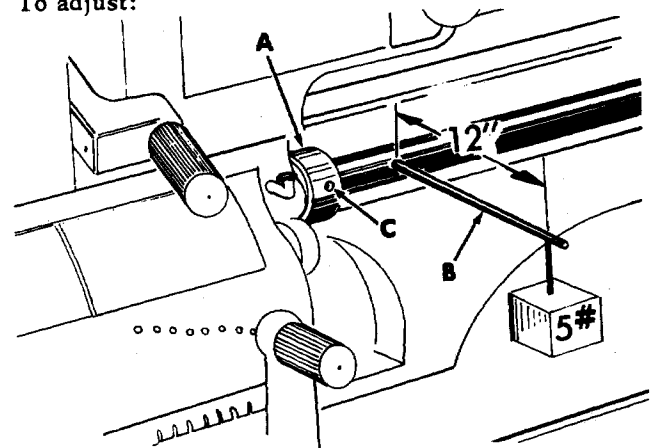

Figure 19
1. Insert $\frac{1}{4}$ " rod (B, fig. 19) in the hole in lead screw near clutch.
3. While holding quadrant gears, insert $\frac{1}{8}$ " rod in hole (C) and tighten collar (A) until clutch is properly adjusted.